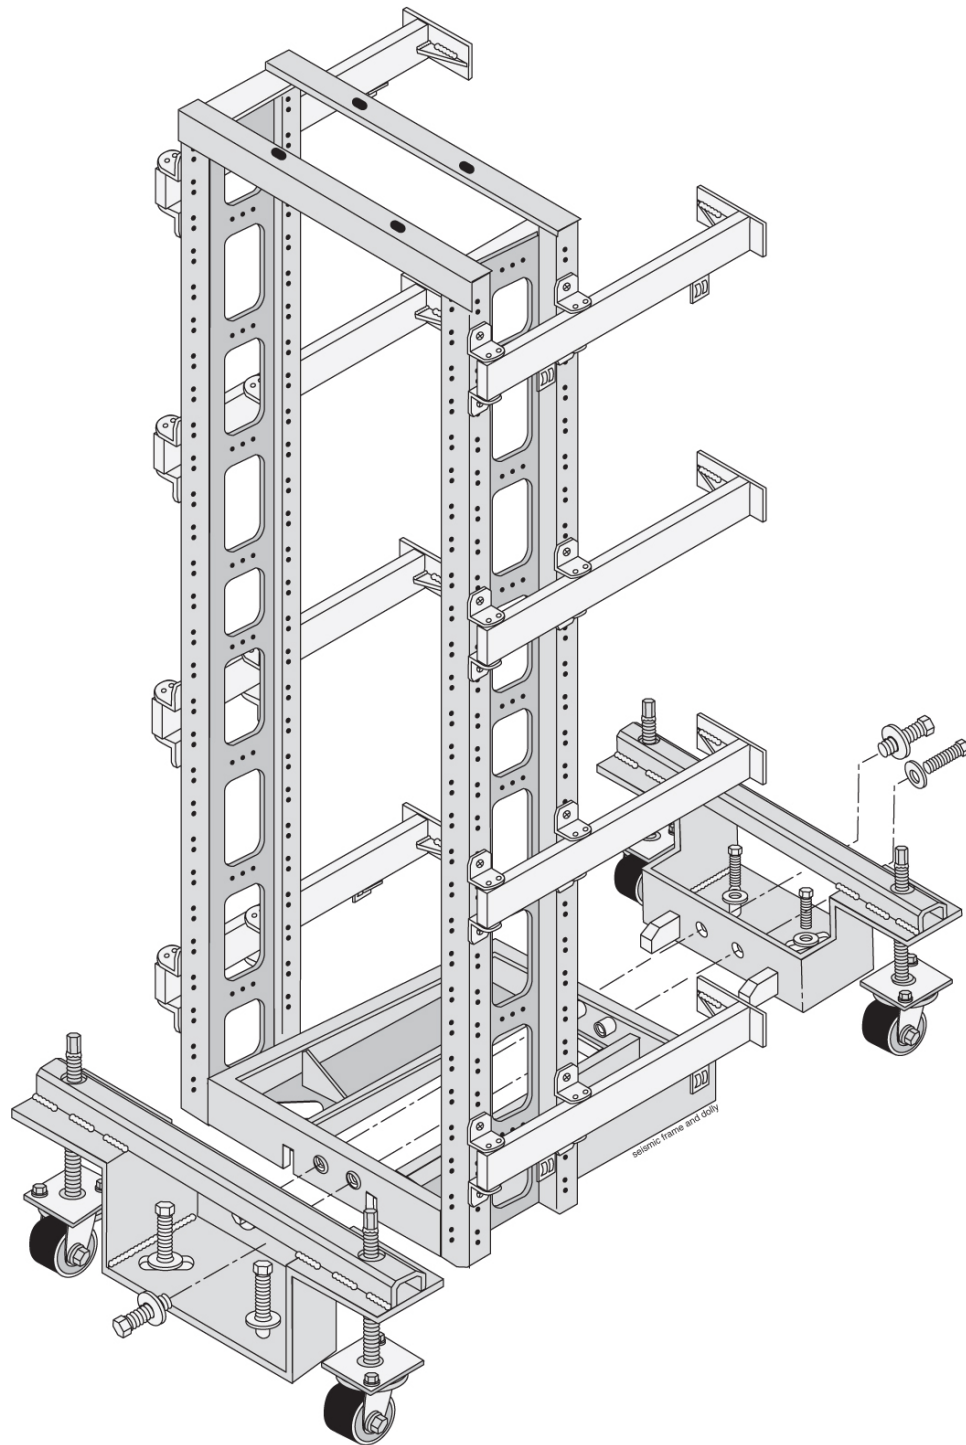

Figure 13: Heavy Duty Frame with Dolly
11. Remove the bolts, front and rear, that attach the dolly to the frame. Refer to Figure 13: Heavy Duty Frame with Dolly.